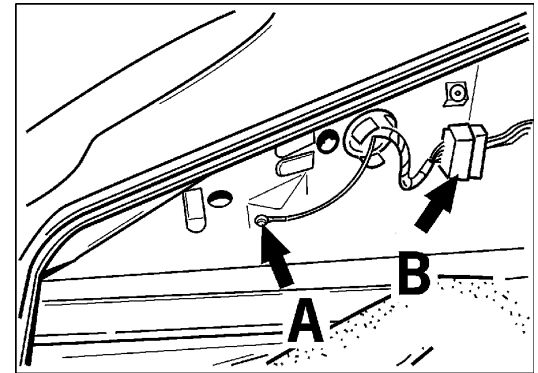

Figure 4
2.7 Route and connect the brown wire (1.5 mm²) of the Litronic harness to the lug of ground point 1. (Figure 4, Item A)
3.11 Detach and disconnect connector X1/2 on right wall of the luggage compartment. (Black 21-pin connector, Figure 4, Item B)